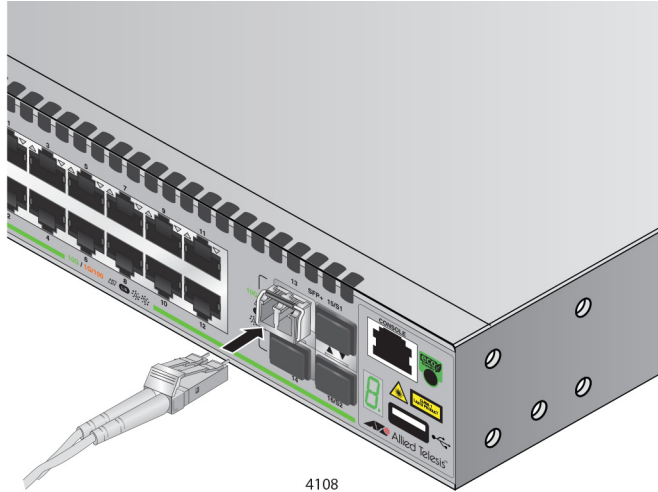

Figure 25. Connecting a Fiber Optic Cable to an SFP Transceiver
7. Connect the fiber optic cable to the transceiver, as shown in Figure 25.